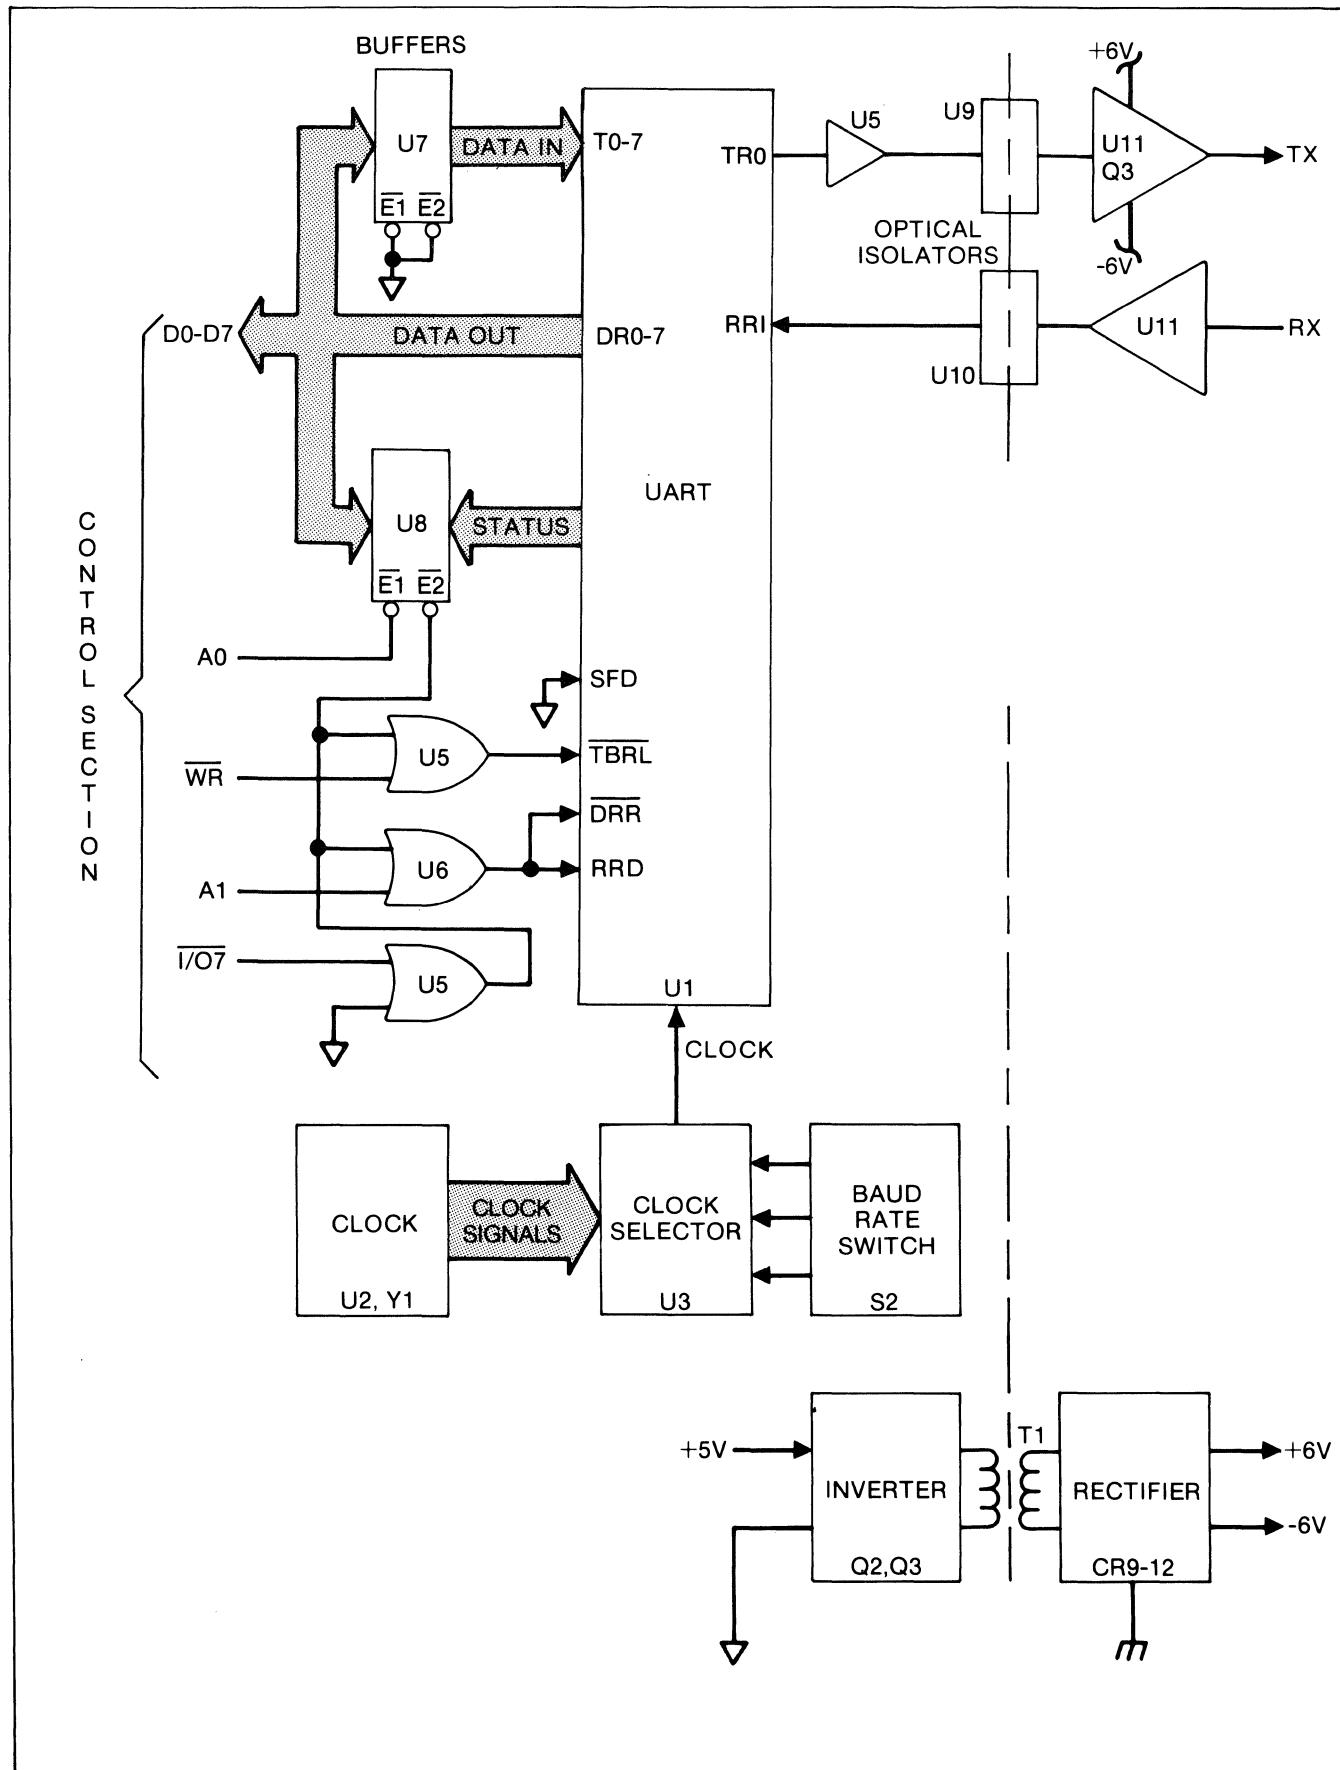

Figure 001-1. RS-232 Interface
001-5. The RS-232 Interface (Option -001) provides a standard communications interface port. The interface contains a **UART** (universal asynchronous receiver/transmitter) which performs the necessary parallel-to-serial and serial-to-parallel data conversion, and inserts stop bits and parity coding. Figure 001-1 shows that the data input lines (T0-T7) are connected via tri-state buffer U7 to the data bus. This buffer is constantly enabled. The status output lines: parity error (PE); framing error (FE); overrun error (DE); data received (DR); transmit buffer empty (TBE); and transmit register empty (TRE) are all buffered to the data bus via tri-state buffer U8. In addition to the six status lines, U8 always sends the upper bit (b7) low and the next bit (b6) high when a read status is performed. These two bits are used by the main microprocessor to detect the presence of the option card. The data output lines, and the status output lines of the **UART**, U1, are all connected to the microprocessor data bus, D0 - D7.